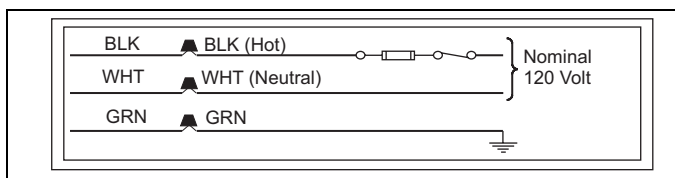

FIGURE 20: Line Wiring Connections
3. The furnace's control system requires correct polarity of the power supply and a proper ground connection. Refer to Figure 20.